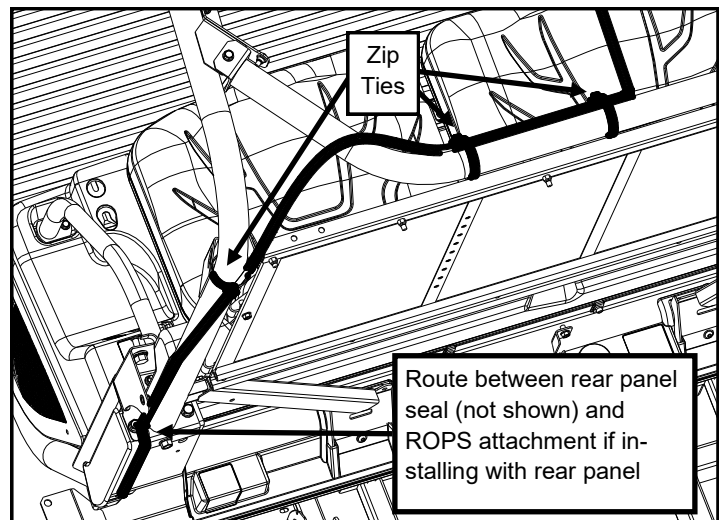

Fig. 5 (shown with canopy removed)
5. Starting at the battery compartment, route the end of the wire harness with the bullet terminals between the foam seal of the rear panel (if equipped) and the ROPS attachment. Route the harness up the back of the driver's side vertical ROPS tube, over the top of the driver to passenger side cross tube and along the center tube as shown in fig. 5.
8. Starting at the light, use provided zip-ties to secure the wiring harness to the ROPS tube. See fig. 5.